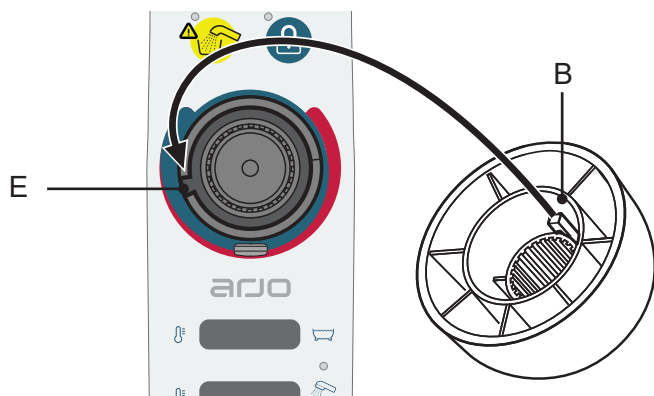

Fig. 23
17. Make sure the stop peg on the under side of the Water temperature settings knob (B) is placed right above the stop peg (E) on the black stop ring, see Fig. 23.